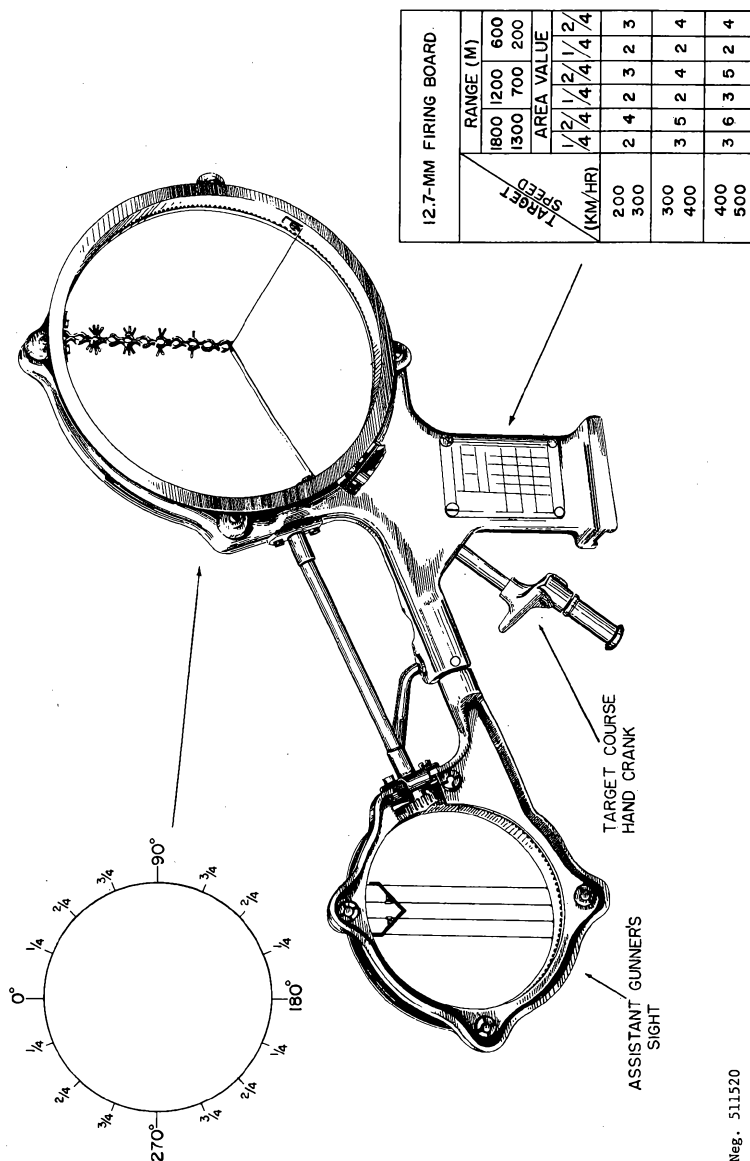

Figure 221. M1943 anti-aircraft sight.
e. To convert the mount for antiaircraft fire, dismount the gun (reverse instruction in b above), loosen the shield clamps, and remove the shield. Loosen the axle bracket clamp and remove the wheels and axle. Loosen the clamp halfway along the legs, and lift the mount so that the legs are perpendicular to the ground. Swing the middle leg to the rear and open the outer legs. Lock the middle leg so that the upper mount will rotate on a horizontal plane, and reinstall the gun. A shoulder brace can be installed on the dovetail above the fine elevating knob, and the antiaircraft sight (fig 221) can be slid into the dovetail cut in the receiver.